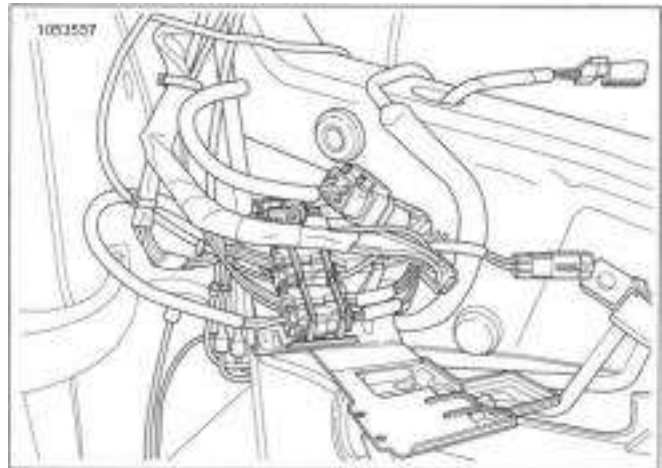

Figure 7-149. Front Electrical Caddy Open
- c. See Figure 7-146 and Figure 7-149. On top fold (3) disconnect twist grip and headlamp connectors.